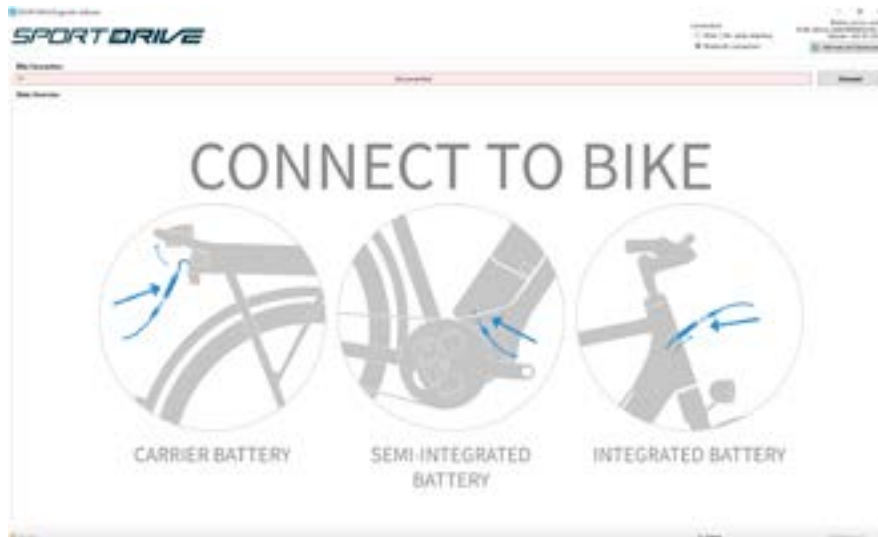

Figure 3.5 Using Bluetooth connectivity for diagnostics
- 2 The “Bluetooth connection” option is located in the upper right-hand corner (Fig. 3.5)